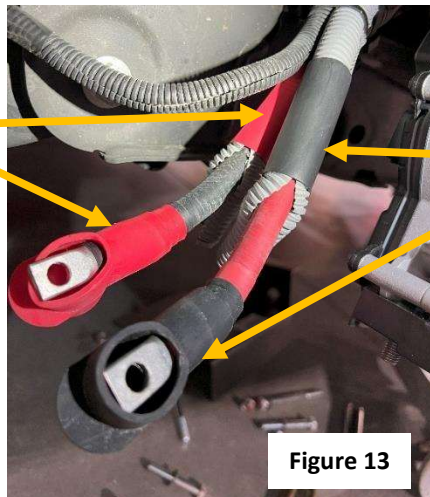

Figure 13
31. Change wire polarities. See figure 13.